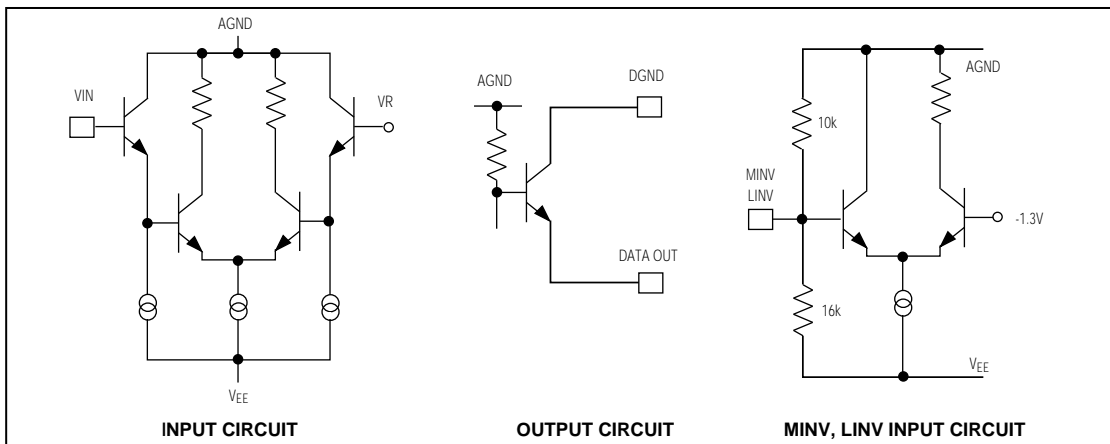

Figure 4. Subcircuit Schematics
There are two analog input pins that are tied to the same point internally. Either one may be used as an analog input sense and the other for input force. This is convenient for testing the source signal to see if there is sufficient drive capability. The pins can also be tied together and driven by the same source. The MAX1125 is superior to similar devices due to a preamplifier stage before the comparators (Figure 4). This makes the device easier to drive because it has constant capacitance and induces less slew-rate distortion. An optional input buffer may be used.
These are ECL-compatible digital controls for changing the output code from straight binary to two's complement, etc. (Table 1 and Figure 4). Both MINV and LINV are in the logic low (0) state when left open. The high state can be obtained by tying to AGND through a diode or $3.9\text{k}\Omega$ resistor.